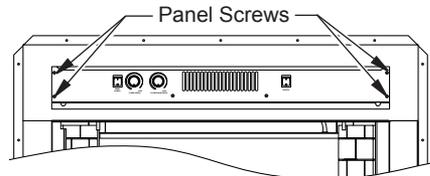
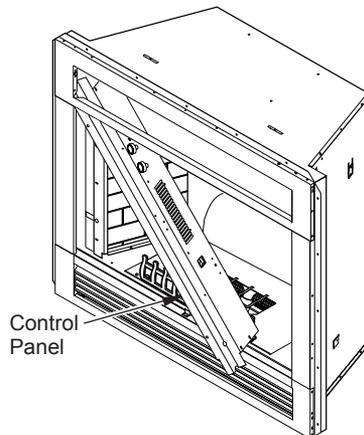

Figure 29 - Panel Screws Location
Figure 30 - Removing Control Panel
8. Remove 4 screws from control panel (see Figure 29). Tilt entire control assembly forward to clear lower flange at upper door rail and slide assembly down through space between front face and firebox mount (see detail Figure 30).
9. Angle control panel out through opening (see Figure 30).